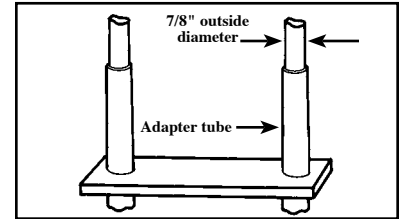

Figure 1
1. Determine whether your ladder is a 7/8" (2.22 cm) or 1" (2.54 cm) diameter unit. If it's a 7/8" ladder, snap the wrap-around adapter tubes on your ladder where Rack will be mounted. (Figure 1)